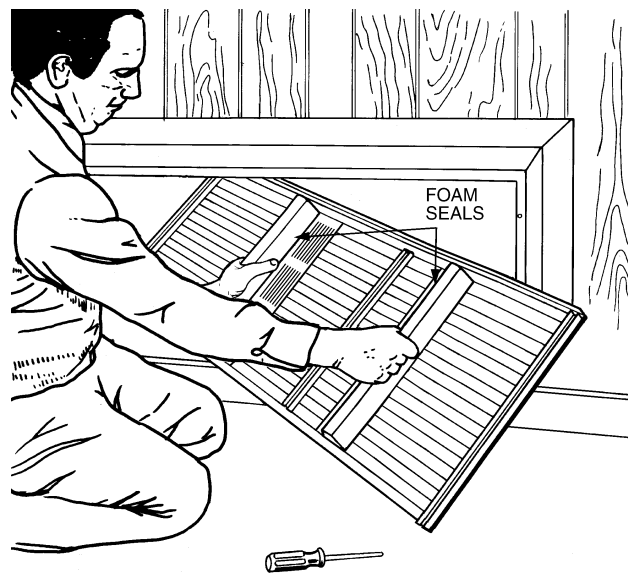

Fig. 2 — Installing Architectural Grille Accessory in Sleeve
1. Firmly grasp grille by foam seals and tilt grille to insert through sleeve then out the back of the sleeve. See Fig. 2.